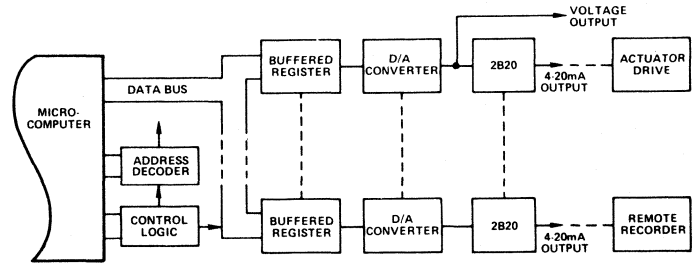

Figure 8. Microcomputer Analog Output Subsystem
**Microcomputer - Current Loop Interface:** Figure 8 shows a typical application of the 2B20 in a multichannel microcomputer analog output system. When a microcomputer is to control a final control element, such as a valve positioner, servo-mechanism or motor, an analog output board with 4 to 20mA outputs is often necessary. The output boards typically have from one to eight channels, each with its own D/A converter. The 2B20, in a compact package, allows for an easy installation without any additional components and offers a 12 bit system compatible performance.